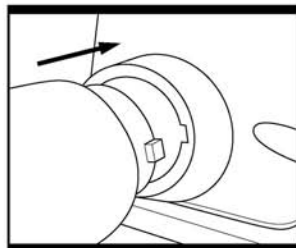

Fig. 2
3. ATTACHING SANDER TO VACUUM CLEANER (Fig. 2)